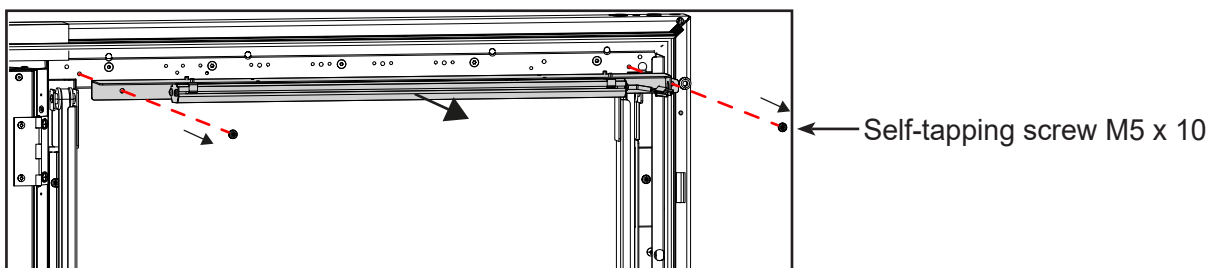

Figure 10
3. Remove the LED lighting (Fig. 10).